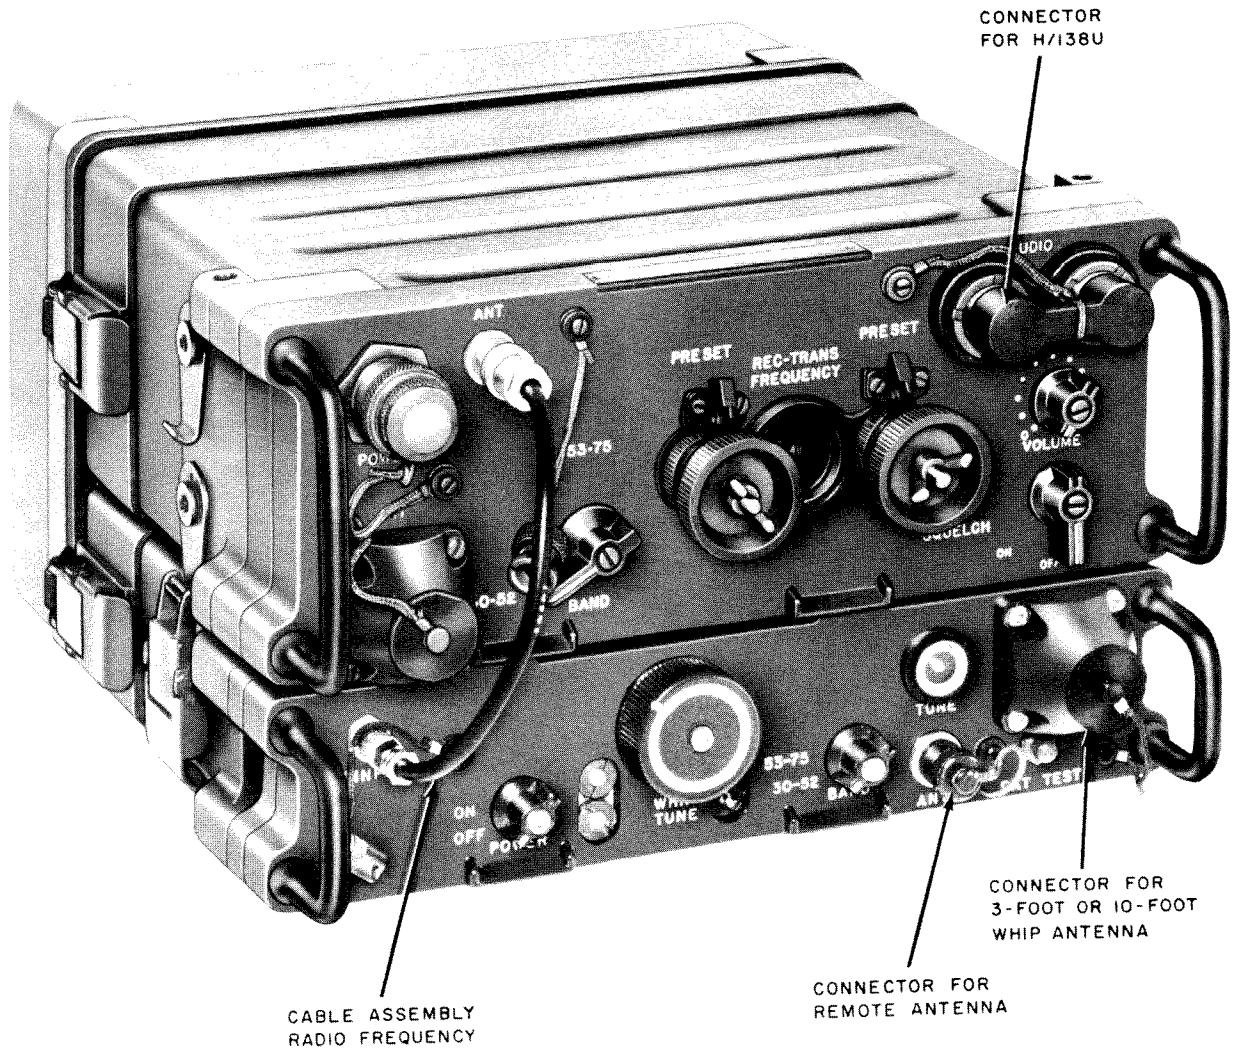

Figure 2-3. AM-4306/GRC Cabling diagram.
(10) Insure the AM-4306/GRC is mated properly with the battery by depressing the BAT TEST switch and observe the TUNE indicator for a deflection; also, the receiver-transmitter front panel should be flush with the AM-4306/GRC front panel.
(11) Secure the CY-4612/GRC to the AM-4306/GRC and receiver-transmitter with the clamps on the sides.
c. Install the RF Cable Assembly (fig. 2-3) by connecting it between the receiver-transmitter ANT connector and the AM-4306/GRC RF INPUT connector.